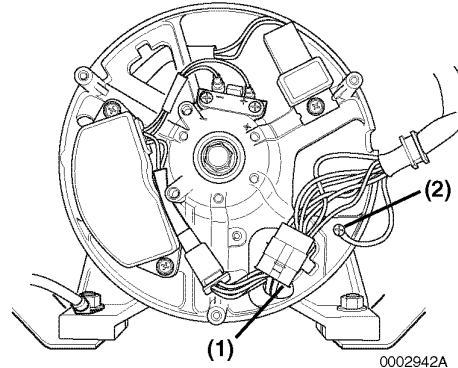

Figure 7-37
Note: YDG2700EV-6EH models use one six terminal connector (**Figure 7-37, (1)**) from the control panel and one ground wire (**Figure 7-37, (2)**) fastened to the rear housing.